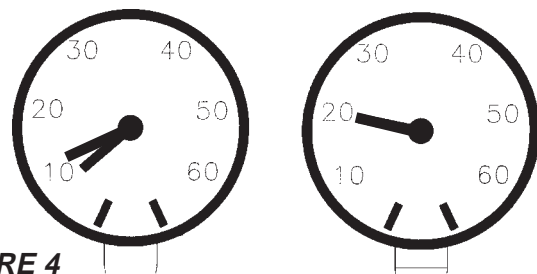

FIGURE 4
16. Operate the submersible pump. Observe that line pressure will rise to a constant level and pause there momentarily. At this point, a slight drop on the pressure gauge may be observed followed by an immediate sharp increase to full line pressure. For piston leak detectors, the constant level (metering pressure) will be approximately 17 to 22 psi. For diaphragm leak detectors, the constant level (metering pressure) will be approximately 8 to 12 psi. Full line pressure of approximately 25 to 30 psi will also be observed, determined by the size of the submersible pump and the product it is pumping. See Fig. 4.